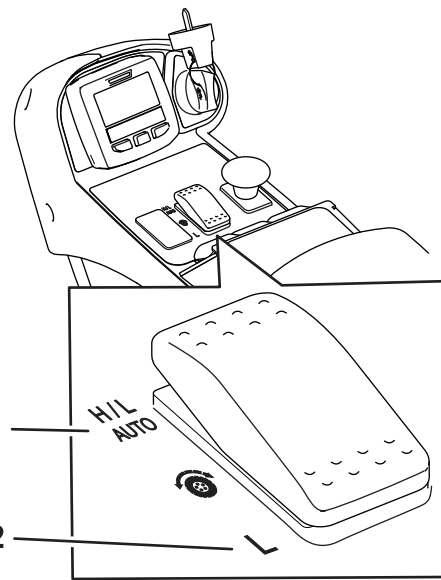
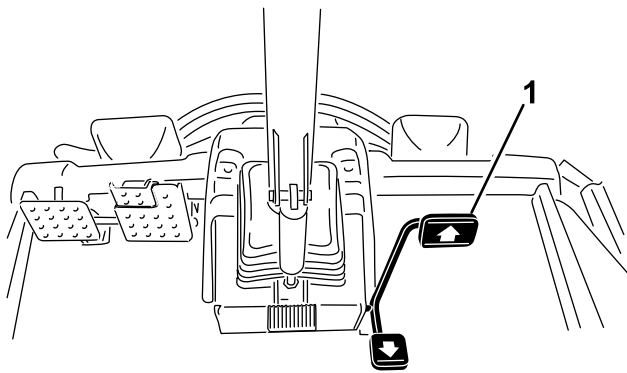

Figure 25
Figure 26
- Under normal operating conditions, this machine is intended to operate in the H/L AUTO position on the speed range switch (Figure 25). This position allows the machine to automatically switch between low and high speed ranges, depending on whether the machine is being used for mowing or transporting.
- When you select the Low position on the speed range switch (Figure 25), the machine will always
This machine is equipped with 2 traction speed ranges; low and high. The speed range switch allows you to select the following positions (Figure 25):
This feature allows the ability to set the maximum speed of the machine when you push the pedal fully forward (Figure 26). You can set a separate speed for the low range and high range (Figure 25).